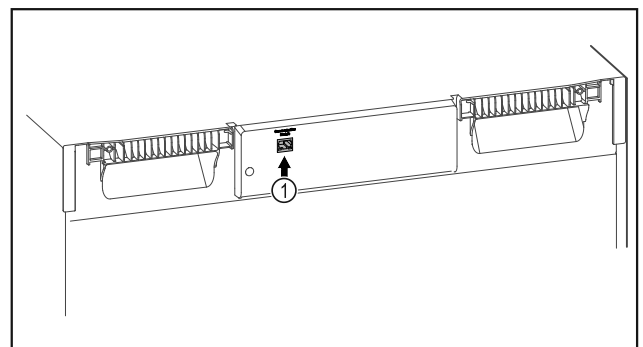

Fig. 140
- SmartModule Fig. 140 (1) is in use.